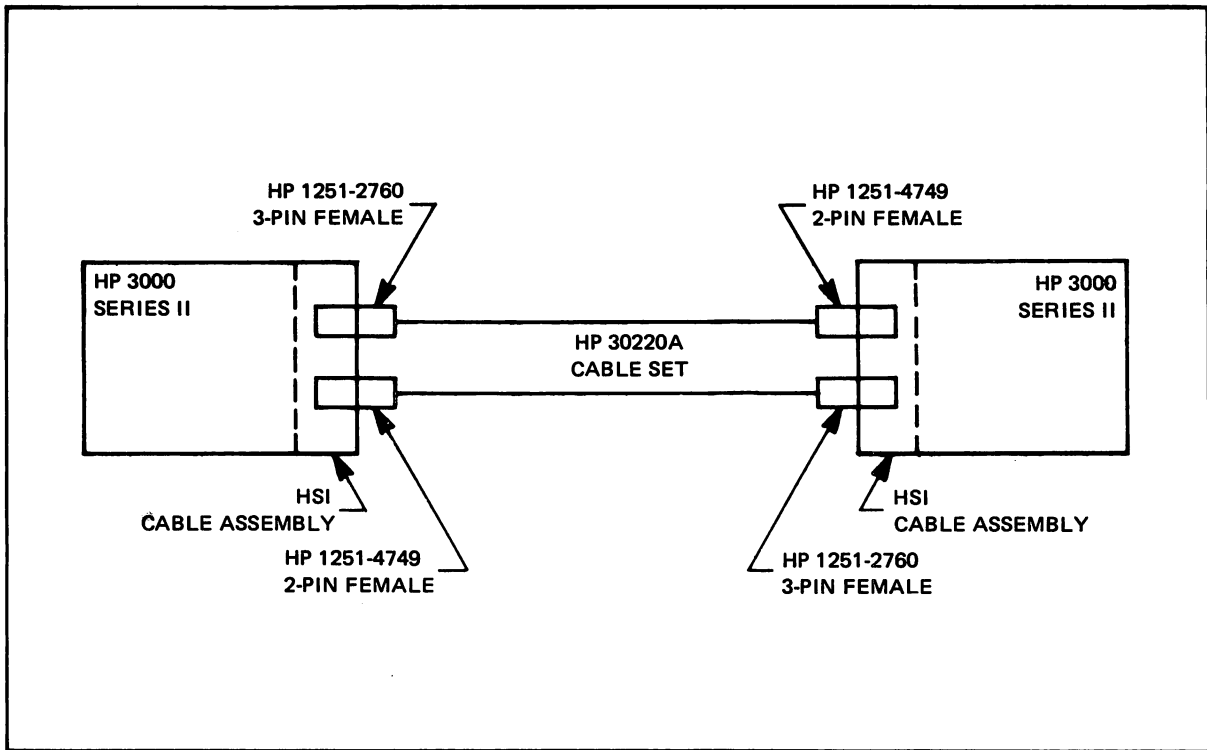

Figure 3-1. HP 3000-HP 3000 Connectors
For a 3000-3000 link, each cable will have a two-contact connector on one end of a cable and a three-contact connector on the other end. As shown in figure 3-1, the connectors are fabricated on the cables so that there is a two-contact and a three-contact connector attached to each system.
- b. Connect the HP 30220A coaxial cables to the HSI Cable Assembly panel. Two cables comprise one hardwired channel. Check that with each cable pair attached to a system, the connectors are as shown in figures 3-1 or 3-2.